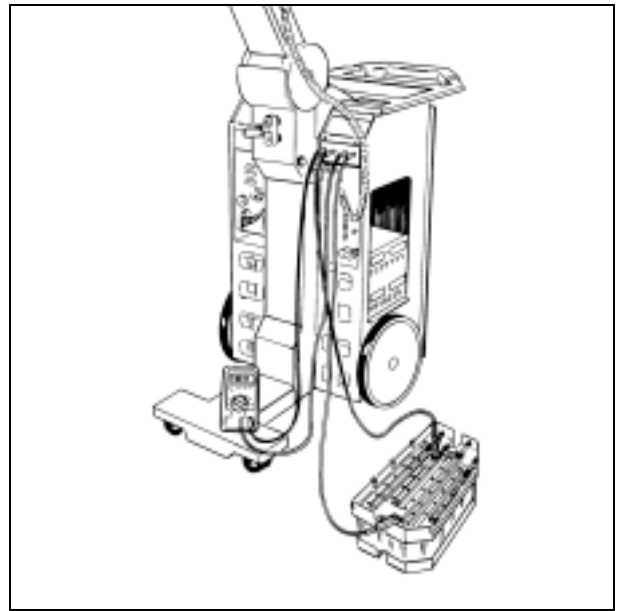

Fig. 4
- Connect the voltmeter to the measurement points parallel to the insulated cables which will be used to discharge the capacitor bank ($U < 10 \text{ V}$) (Fig. 4).